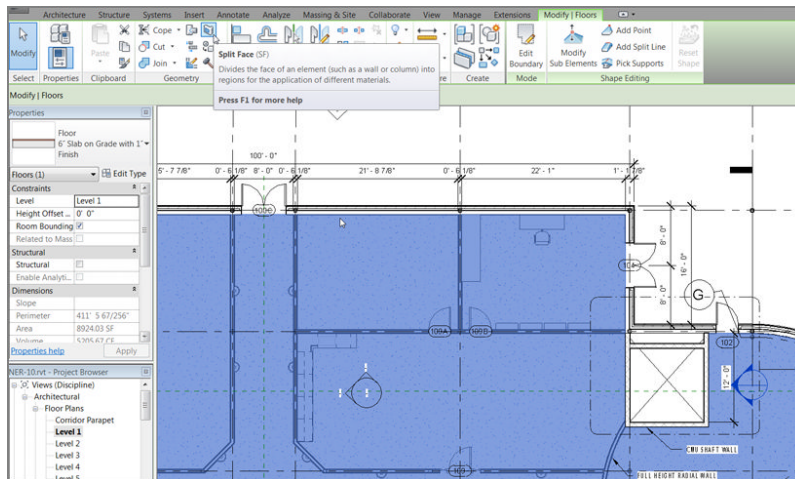

FIGURE 9.65: Clicking the Split Face button, and selecting the slab edge
1. Open the Level 1 floor plan. Click the Split Face button on the Modify tab, as shown in Figure 9.65.
2. Select the entire floor. This may require finding the edge of the floor along an exterior wall (see Figure 9.65).